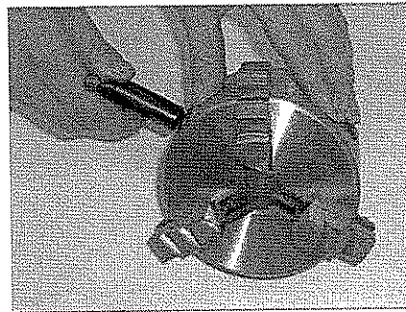

Fig. 33
7.11.7. Demounting the clamping jaws of spindle chuck: By turning the chuck key counter-clockwise, the three clamping jaws of the chuck can then be taken off along the slots, as shown in Fig. 33.